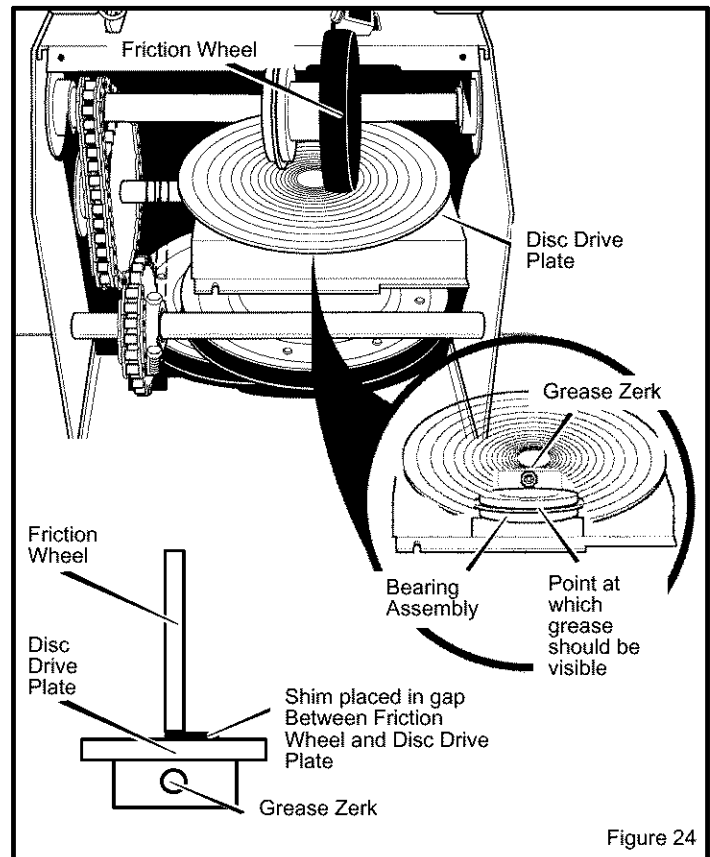

Figure 24
3. Position speed selector lever in first (1) forward gear.
6. Turn disc drive plate clockwise by hand until grease zerk is clearly visible at front center (see Figure 24).
7. Place a coin or **(a shim of equal thickness)** between the rubber friction wheel and disc drive plate to prevent rubber friction wheel contacting the drive disc (see Figure 24).
8. To grease zerk, use a hand grease gun, lubricate with a Hi Temp EP Moly grease. See inset of Figure 24. **DO NOT** over fill or allow grease to come in contact with the disc drive plate or friction wheel or damage will result. Fill zerk only until grease becomes visible below bearing assembly located under grease zerk.